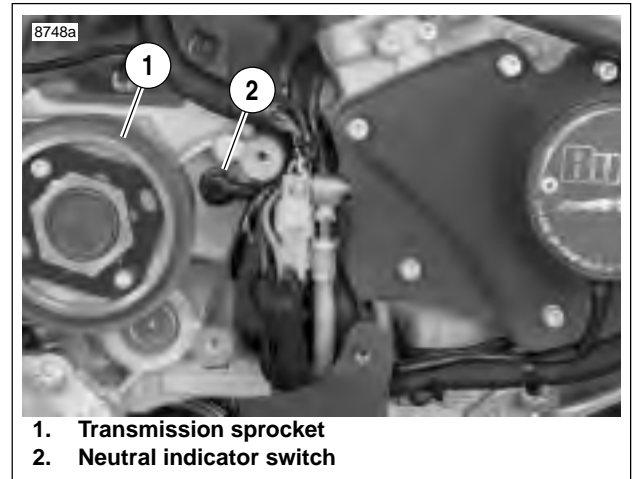

Figure 7-67. Neutral Indicator Switch Location
See Figure 7-67. The neutral indicator switch (2) is threaded into the transmission portion of the right crankcase half. It is immediately forward of the transmission sprocket (1). The sprocket cover must be removed to test the switch.
2. See Figure 7-67. Disconnect wire lead from neutral indicator switch (2).